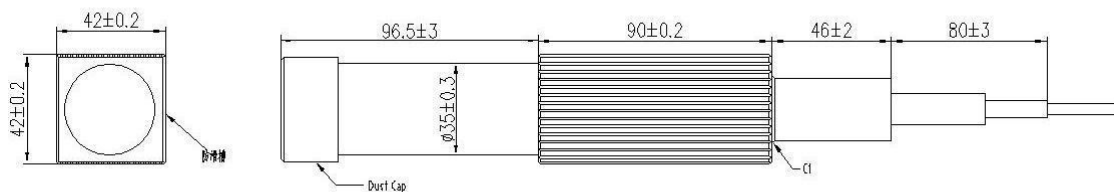

Figure 2. Dimension drawing of output isolator (Unit: mm).
2) Isolated output isolator (As shown in Fig. 2).